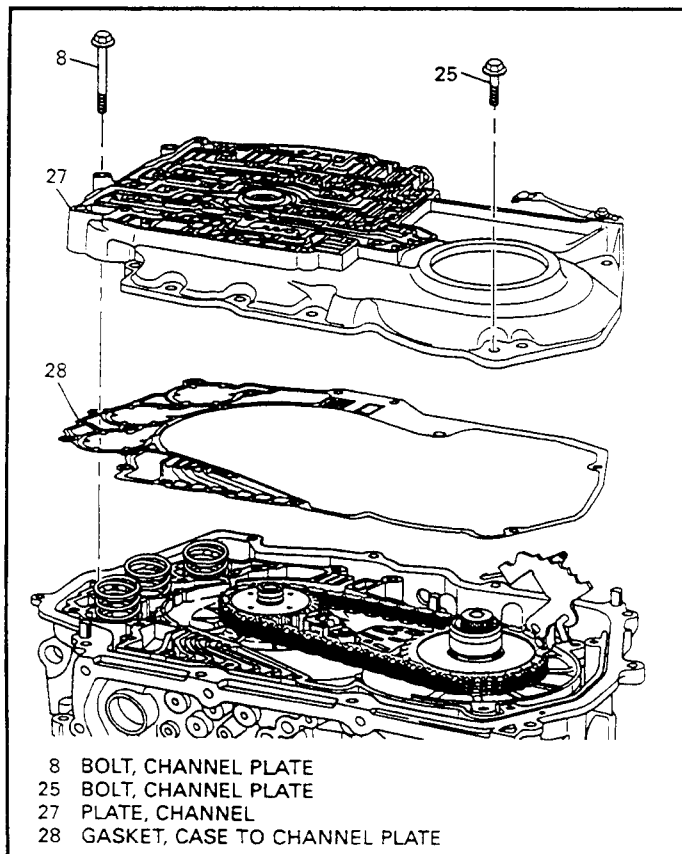

Figure 62
51. Remove the ten channel plate bolts, as shown in Figure 62.
52. Remove the channel plate assembly (27) from transaxle, as shown in Figure 62.
53. Remove and discard the channel plate to case gasket, as shown in Figure 62.